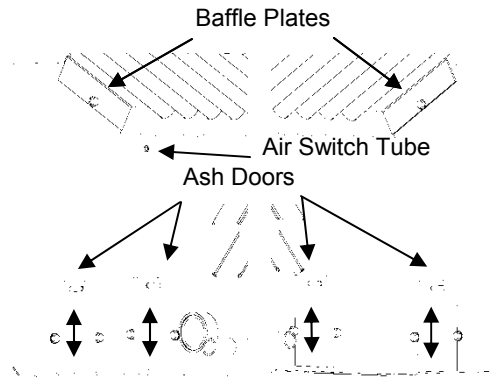

FIGURE 19
- b. **Interior Chambers** – Four ash doors and two upper baffles in the firebox in the P4000 can be removed for periodic cleaning (Figure 19). These doors allow access to the chamber surrounding the firebox.